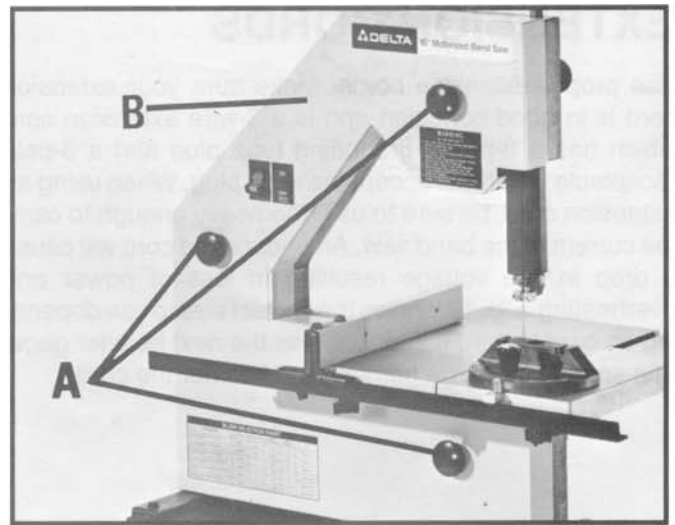

Fig. 15
3. Unscrew three knobs (A) Fig. 15, and remove the front cover (B).